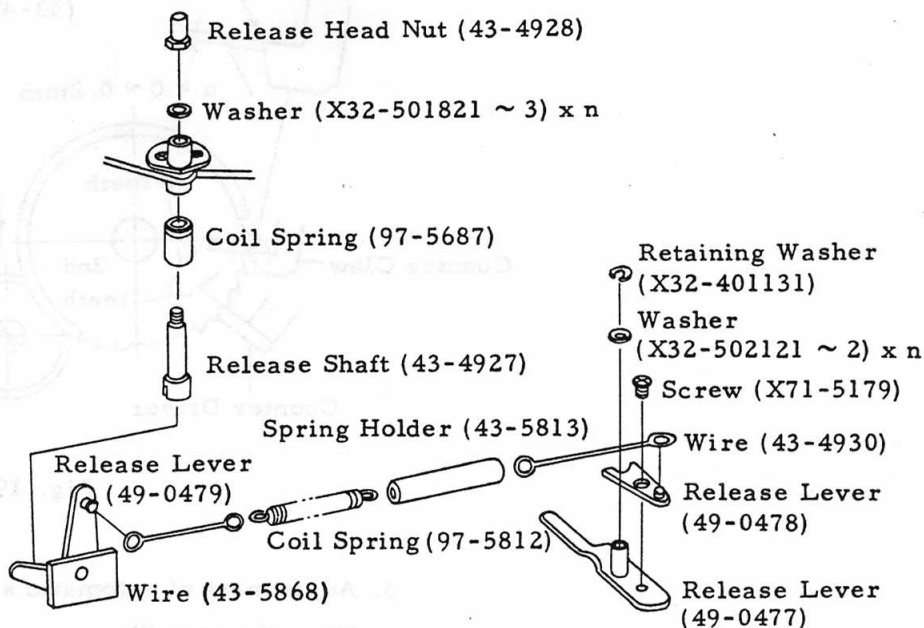

Fig. 20
- 1) Install the parts as shown in Fig. 20.